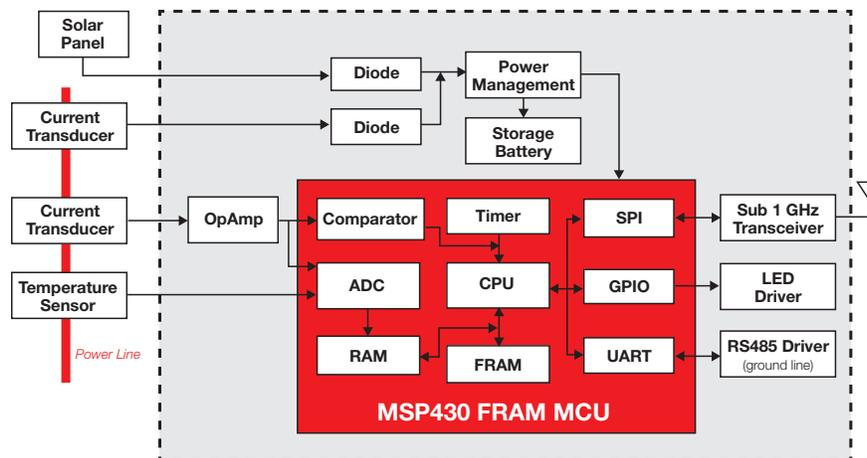

Figure 3. Functional block diagram of a smart fault indicator based on MSP430 FRAM MCU
The functional block diagram of the smart fault indicator based on TI MSP430 FRAM microcontroller is shown in **Figure 3**. The current transducer produces an analog voltage which is proportional to power line current. This voltage signal will be conditioned (amplified and filtered) by the op amp. The output of the op amp is sampled by the analog-to-digital converter (ADC) on the MCU. Data analysis is then performed on the digital stream from the ADC. In **Figure 3**, the op amp output is also routed to a comparator on the MCU. The comparator will generate a flag to the CPU in the microcontroller if the input level is beyond a predetermined threshold.
(2) Use energy harvesting.
The block diagram in Figure 3 shows two possible sources for energy harvest: solar panel and power transmission line (via a current transducer). The power management device is specially designed to extract microwatts (μ W) to milliwatts (mW) of power generated from a variety of high output impedance direct current (DC) sources like a solar panel. The battery management features ensure that the storage battery is not overcharged by the extracted power. It also integrates a highly efficient nano-power buck converter for providing a second power rail to the target system.